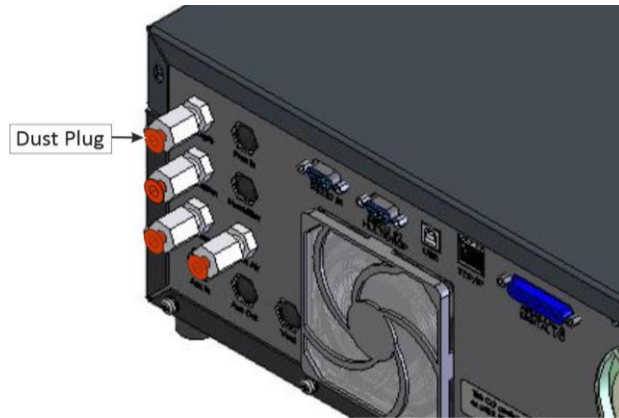

Figure 30 – Dust Plugs
1. Refer to Figure 30. Remove all the dust plugs.